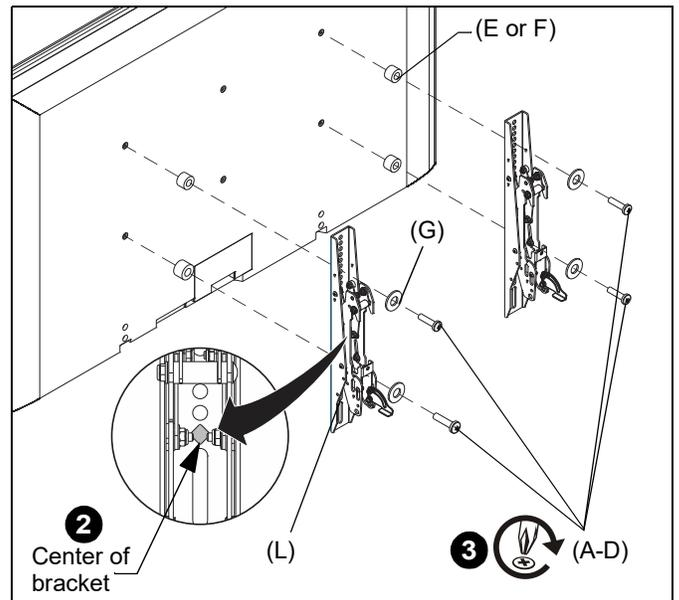

Figure 16
- Align the center of the interface bracket (L) with center of screen. (See Figure 16)
- Select correct screws, spacers (if necessary) and washers from the hardware bag (A-G) and attach brackets (L) to back of screen. (See Figure 16)